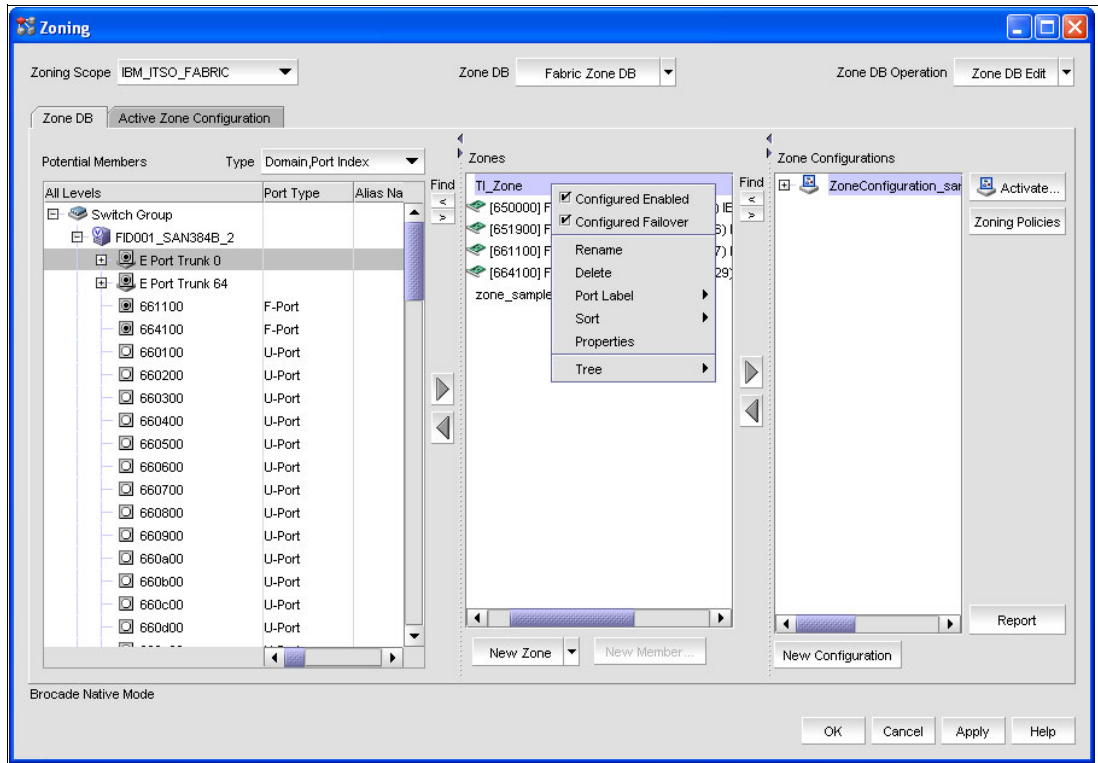

Figure 8-59 TI Zone activation
3. To activate the TI zone, right-click the TI zone, and select **Configured Enabled**. You can also select **Configured Failover**. If Failover is enabled, the devices in the TI zone will use another available ISL if the original ISLs in the TI zone fail (which is not in the TI Zone). When the configured ISL is available again, it will automatically fall back, as shown in Figure 8-59 on page 301.